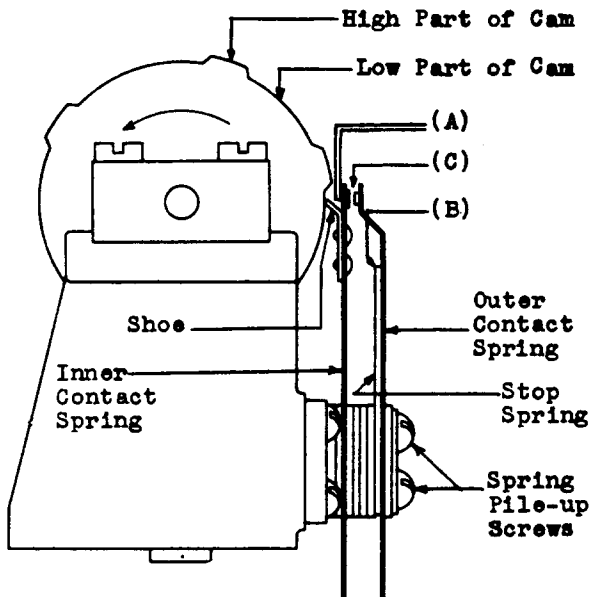

Fig. 3 - Low-speed Cam Assembly
**2.07 Pressure of Cam Shoe on Cam:** Fig. 3(A)—
Fig. 3(B) — With the shoe of the inner contact spring on the *low* part of the cam, the outer contact spring shall rest on the stop spring, at least at the free end of the stop spring.
**2.09 Contact Separation:** Fig. 3(C) — With the shoe of the inner contact spring on the *low* part of the cam, the separation between the contacts of the inner and outer springs shall be